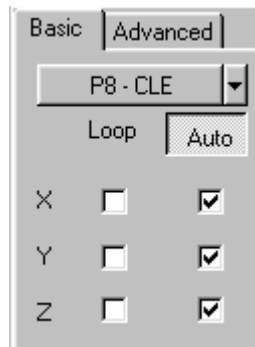

Fig. 2-17
6. Start the automatic CLE sensors adjustment by pressing the «**Auto**» button (Fig. 2-17)